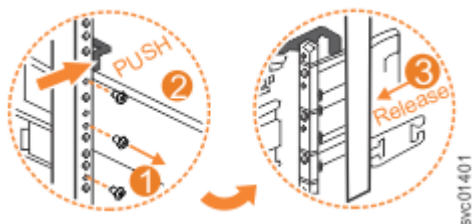

Figure 133. Remove the rail assembly from the rear frame bracket
3. Remove the two screws that attach the inner rail section to the rear bracket, as shown in Figure 133 on page 113.
4. Pull the rail forward, away from the rear bracket, as shown in Figure 133 on page 113.